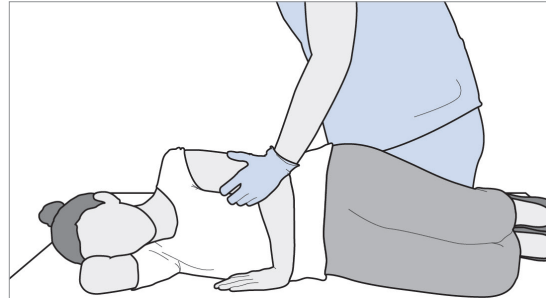

Figure 43 Stabilize Patient
20. Stabilize the patient by placing a hand firmly on the patient's limb (arm or leg) to limit movement during treatment (see Figure 43).